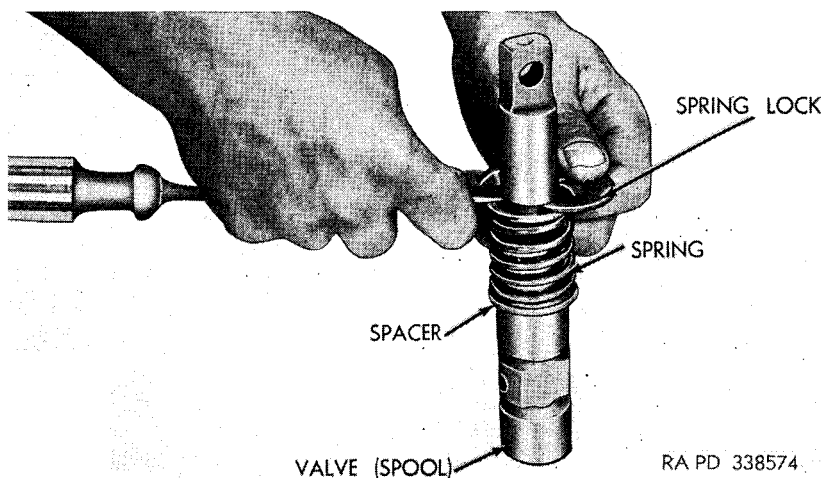

Figure 74. Disassembling valve (spool) assembly.
(2) Examine seal and, if worn or damaged, remove from retainer and replace with new one.
(3) Examine surfaces of valve (spool) and interior of valve body. If either of these parts are scored or worn sufficiently to permit oil to pass by when in "hold" position, replace both parts. Do not attempt to hone the valve body or grind the valve (spool) to remove scratch marks or scorings, as the result will be an undersized valve (spool) or an oversized valve body which will not hold its load.
b. ASSEMBLE VALVE (SPOOL) ASSEMBLY. Place spacer and spring on valve (spool) and install spring lock as shown in figure 74.